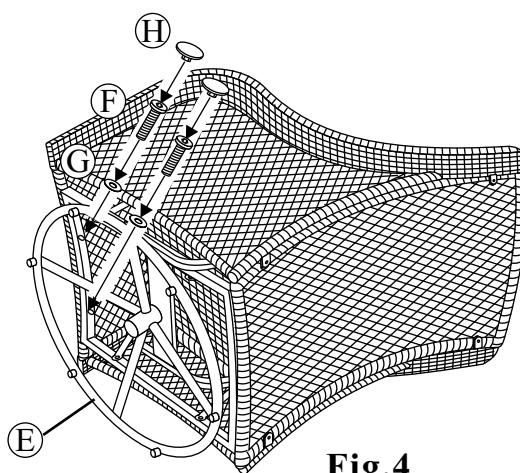

Fig.4
- 2 Attach the complete base to the complete seat by using four 5/16"x40 mm bolts and washers as shown in **Fig.4**. Guide the bolts through holes in base, into the pre-drilled holes in the seat. **Hand tighten only**.